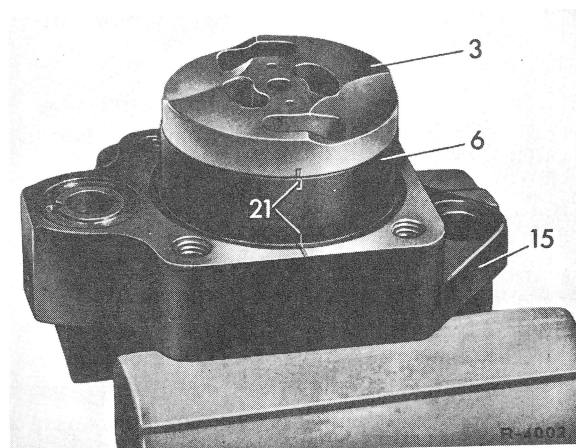

Fig. 4
4 Remove pressure plate (3) from fitted pins, then remove cam ring (6) (Fig. 4).